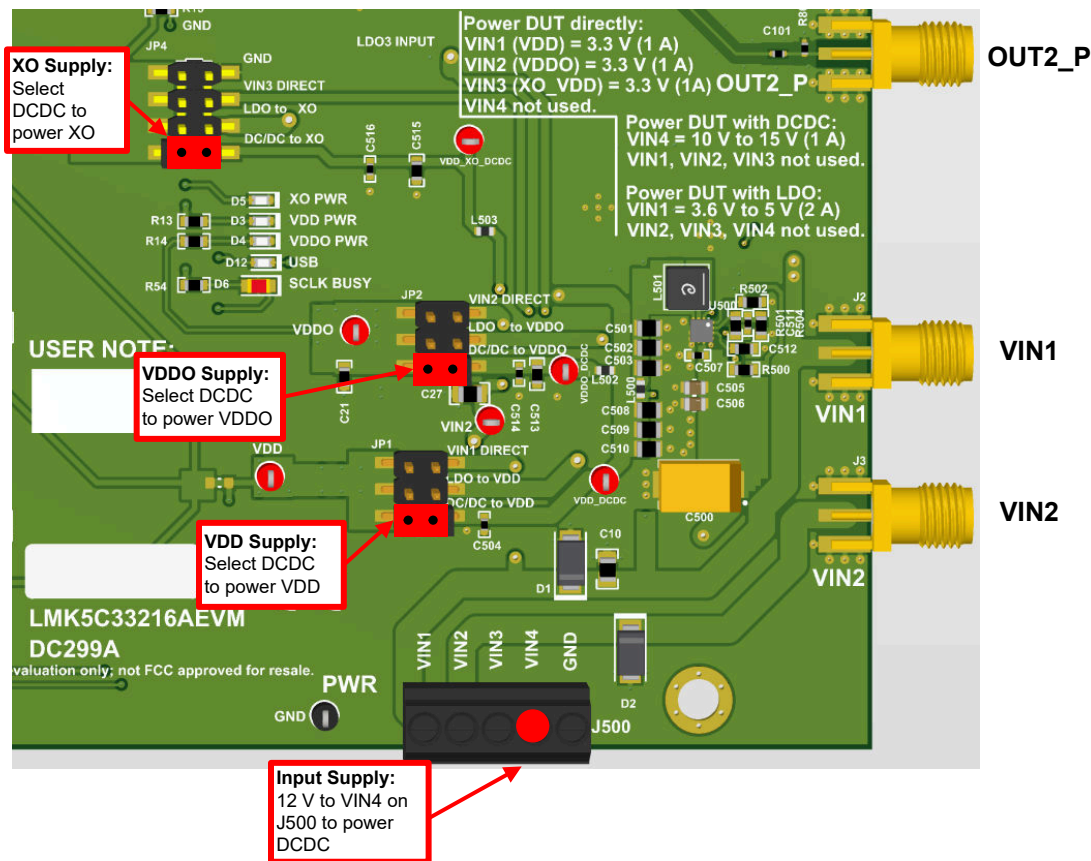

Figure 3-2. Default Power Jumper Configuration
- a. VIN4 and GND terminals on header J500 (pins 4 and 5, see Figure 3-2.)
Figure 3-2 shows the default power jumper locations and settings. Table 3-2 shows the suggested power configurations for the LMK5C33216A